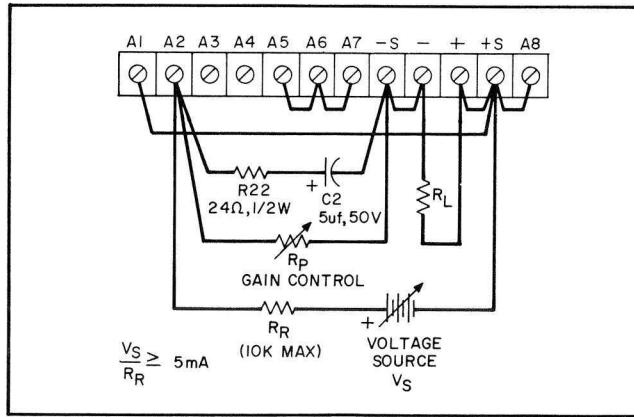

Figure 3-5. Remote Voltage Programming, Constant Voltage (Variable Gain)
**3-47 Voltage Programming, Variable Gain (Figure 3-5).** The strapping pattern shown in Figure 3-5 can be utilized for programming the power supply with variable voltage gain using an external voltage source. The output voltage in this configuration is found by multiplying the external voltage source by  $(R_p/R_R)$ .
**3-48 External resistors  $R_p$  and  $R_R$  should have stable, low noise, and low temperature coefficient (less than 20ppm per degree Centigrade) characteristics in order to maintain the supply's temperature and stability specifications. The values of reference resistor  $R_R$  and programming voltage source  $V_S$  should be such that the value of  $V_S/R_R$  is equal to or greater than 5mA. The value of resistor  $R_R$  should not exceed 10K $\Omega$ ; the power rating of resistor  $R_R$  should be at least 10 times the actual power dissipated in the resistor. Resistor-capacitor combination  $R_{22}$ - $C_2$  should be connected across the programming terminals as shown in Figure 3-5; these components reduce ripple in the supply output. Note that it is possible to use the front panel voltage control already in the supply**